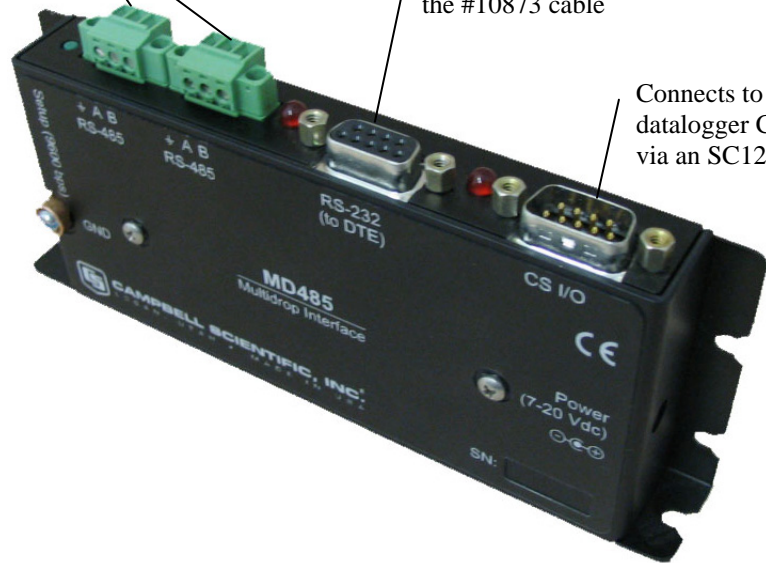

FIGURE 3.3-5. You can configure any two types of interface ports (RS-485, RS-232, and CS I/O) to be used at a time.
4. Mount the 6361 Surge Protector to the enclosure backplate using the hardware provided. Connect the ground wire to the enclosure ground lug (Figure 3.3-5).
5. Cut a 12" long piece of two twisted pair cable and connect it to the SRM-5A as shown in Figure 3.3-5. Fasten the cable to the strain relief tab with a cable tie.
6. Route the cable previously attached to the SRM-5A, and the two twisted pair cable (from the other SRM-5A) to the 6361. Connect the cables as shown in Figure 3.3-5. Strain relief the cables to the side of the enclosure using cable ties and tabs.
3. Route the cable from the remote SRM-5A, and the cable from the SRM-5A attached to the computer to the 6361. Connect the cables as shown in Figure 3.3-5. Strain relief the cables using cable ties and tabs.